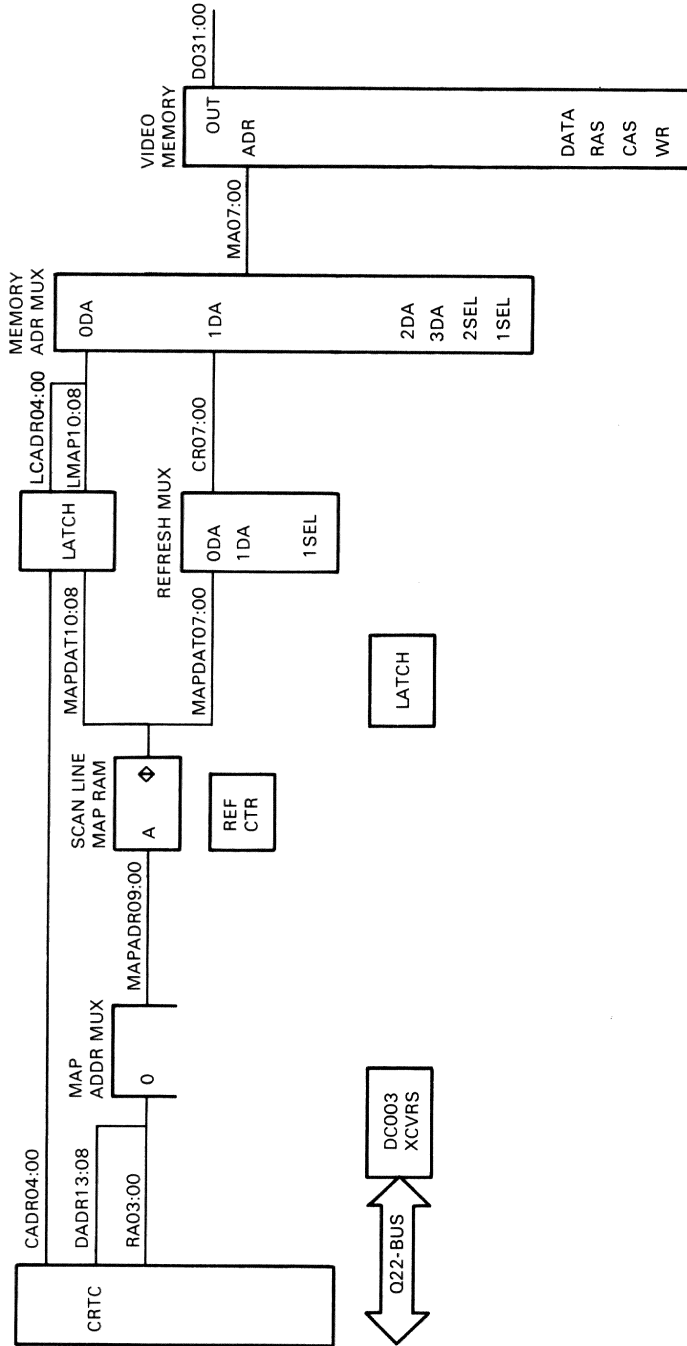
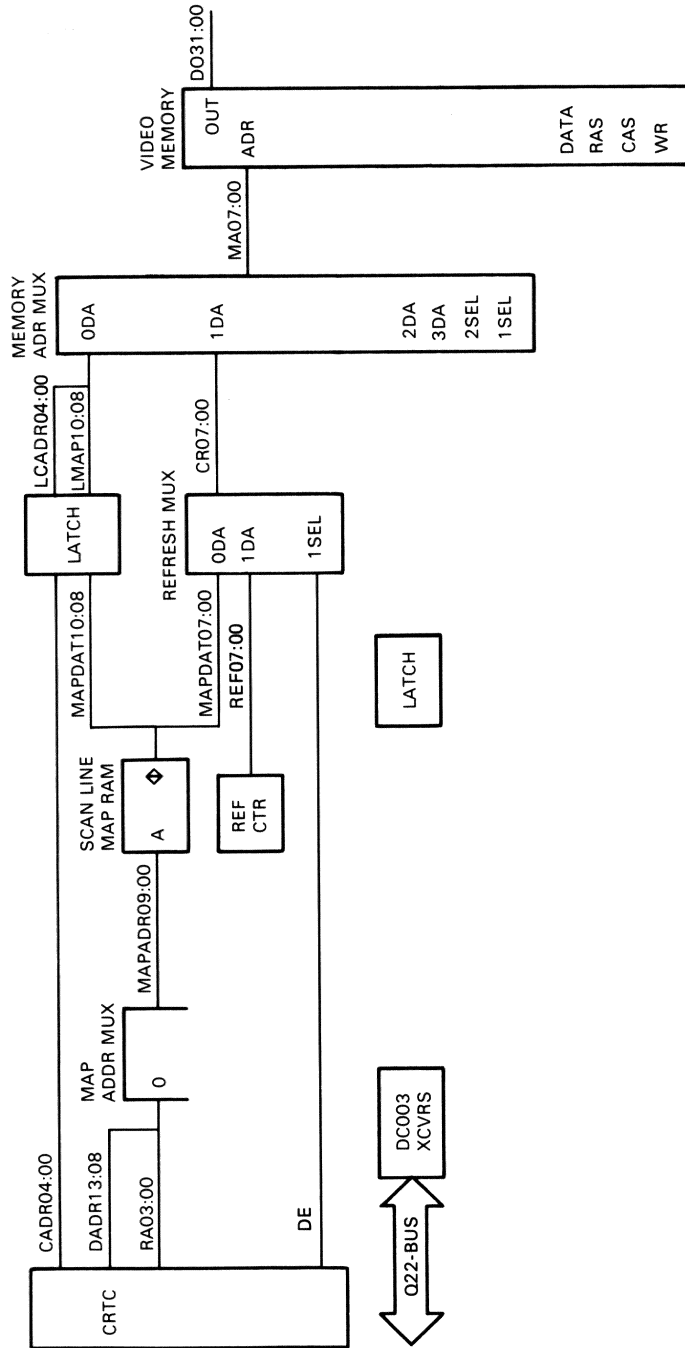

Figure C-11 Video Memory Read (Video Refresh)
Figure C-12 Video Memory Read (RAM Refresh)
C.1.5.3 Video Memory (Video Refresh) – Figure C-11 shows the read-access paths to video memory. To refresh the monitor screen, the row address on D5CR07:00 is selected through memory address mux input 1 – DA by:
C.1.5.4 Video Memory (RAM Refresh) – Figure C-11 shows that the only difference between the video memory read path and the dynamic RAM refresh path (Figure C-12) is that the row address, D5CR07:00, is supplied by the refresh counter through input 1 – DA of the refresh mux.